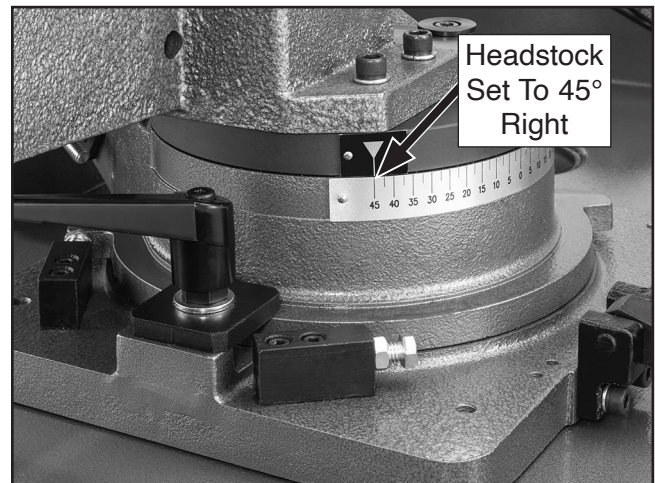

Figure 91. Headstock adjusted 45° right.
- If scale displays 45°, stop does not require adjustment (see **Figure 91**).